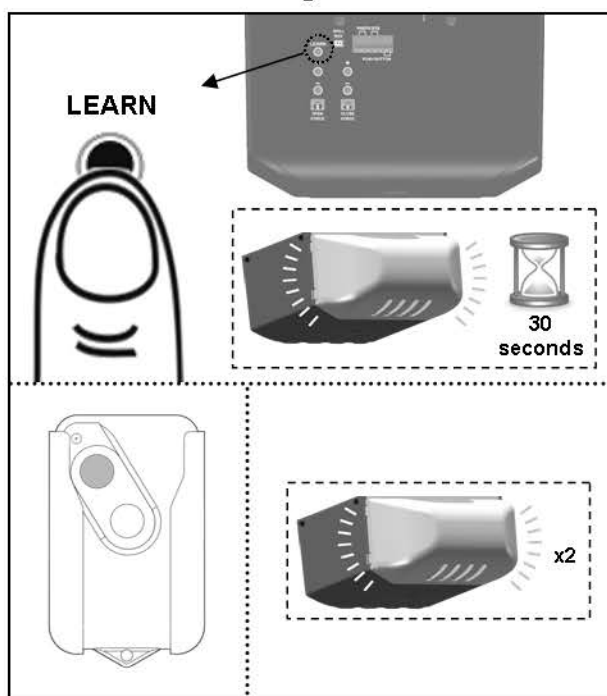

Fig.2
1. See Fig.2 to add a Remote Control. Press the "LEARN" button on the rear control panel of the Opener. The courtesy light will illuminate with an audible click\*. The unit is now ready to learn a Remote Control.